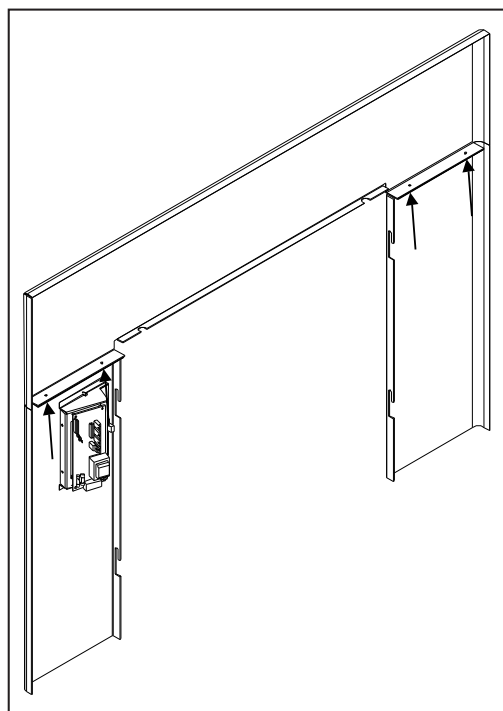

Figure 33: Assembled Surround Panel.
1. To assemble the surround panels, lay the panels face down on a soft flat surface and align the outer edges of the sides with the top panel. Using four (4) T-20 screws up through the side panels into the top (see Figure 33).